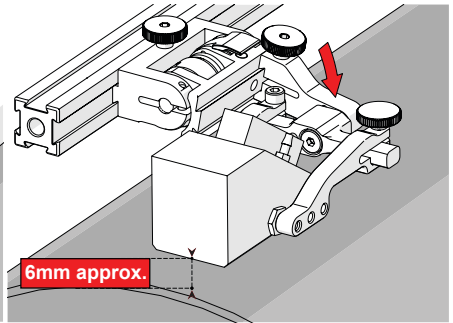

Fig. 36 - Lower to scanning surface
2. Push the probe holder yoke down toward inspection surface until the wedge is approximately 6 mm ( $\frac{1}{4}$  in) above the inspection surface (Fig. 36).